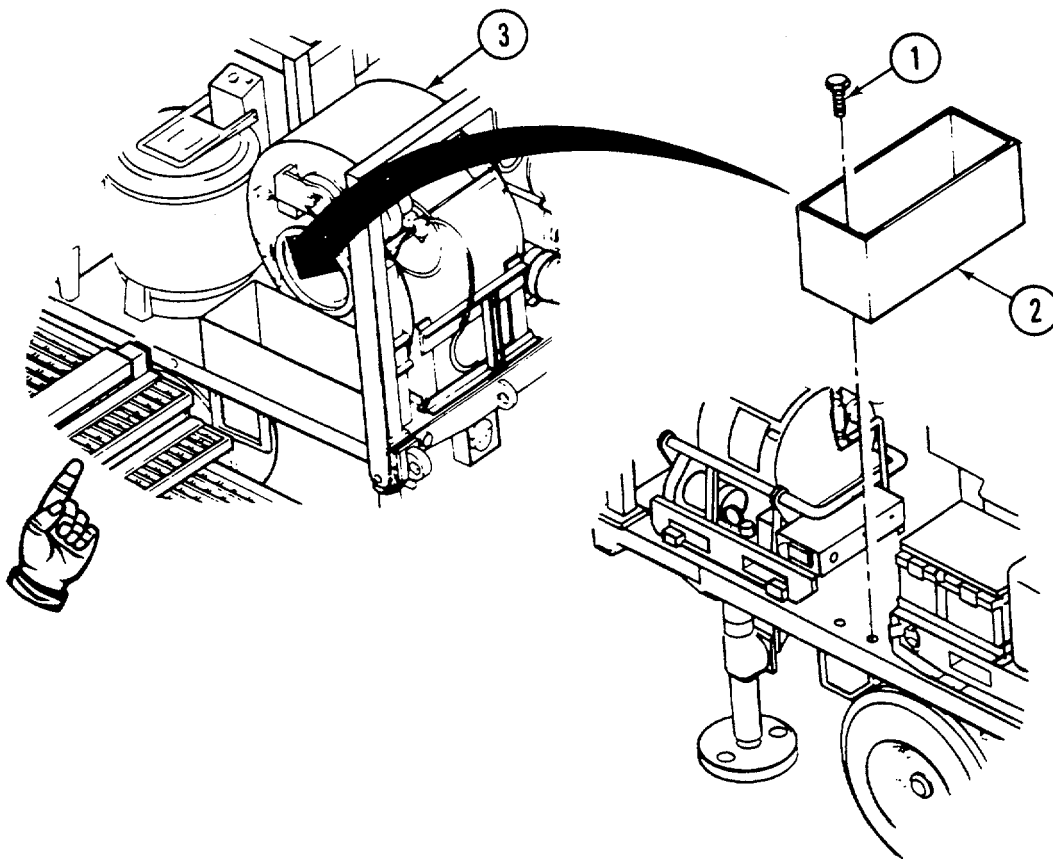

FIGURE 2-13. Dryer bin removal and installation.
- (1) Remove four bolts (1, FIG. 2-13) located inside dryer bin (2).
- (2) Remove dryer bin (2) and place it in front of dryer assembly (3).
- (3) Install bolts (1) removed in step (1) in the same locations from which they were removed.